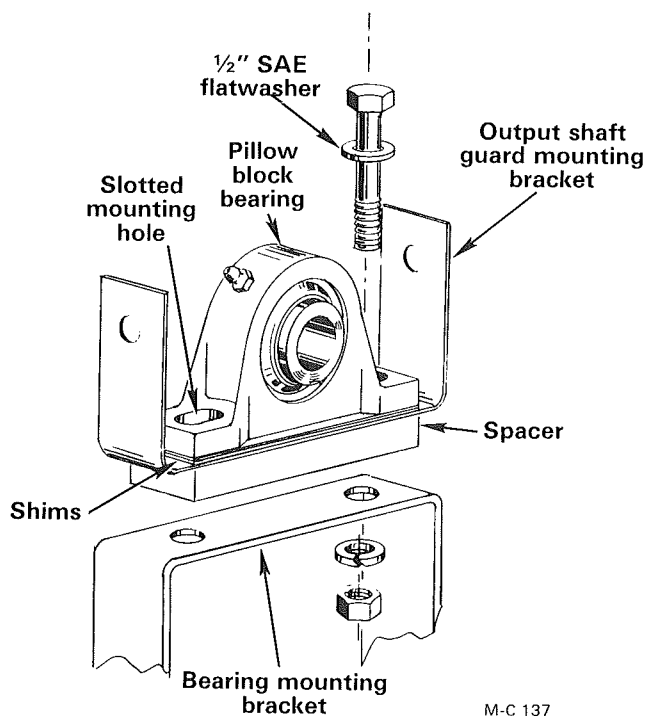

Figure 27
- D. Remove the two capscrews, lock-washers and hex-nuts securing the output shaft bearing. Lift up on the output shaft and remove the spacer, output shaft guard bracket and shims from under the output shaft bearing, see Figure 27.